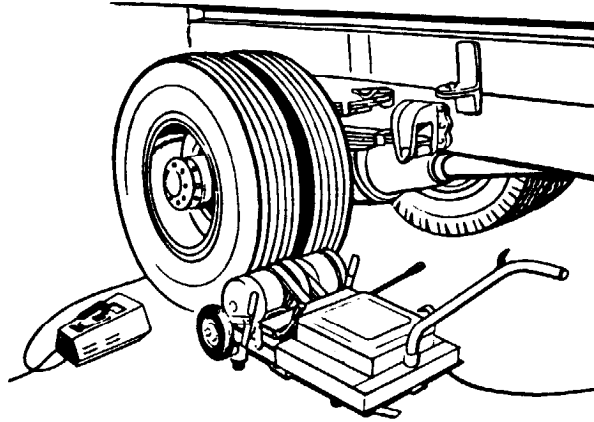

Fig. 22
(A) Spin dual wheels with a heavy-duty 8 horsepower truck spinner. See Fig. 22.